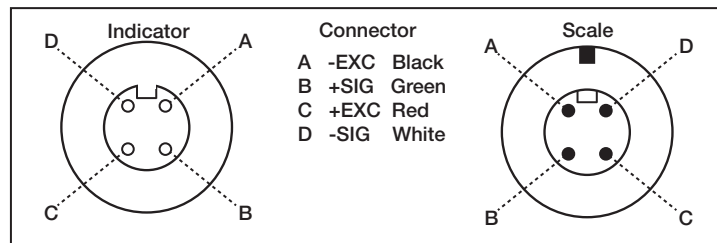

Figure 2-3. Scale/Indicator System Connection
- Two 8-32 NC x 3/8 machine screws (PN 14862) for the indicator backplate (see #10 in Figure 2-3).